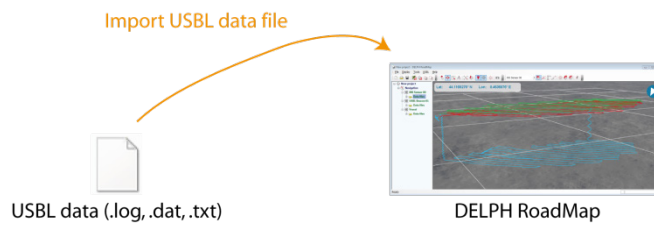

Figure 29 – Visualization of USBL data in offline mode
- Offline mode: the data is directly imported in DELPH RoadMap and all at once displayed in the main graphic area. See Figure 29.